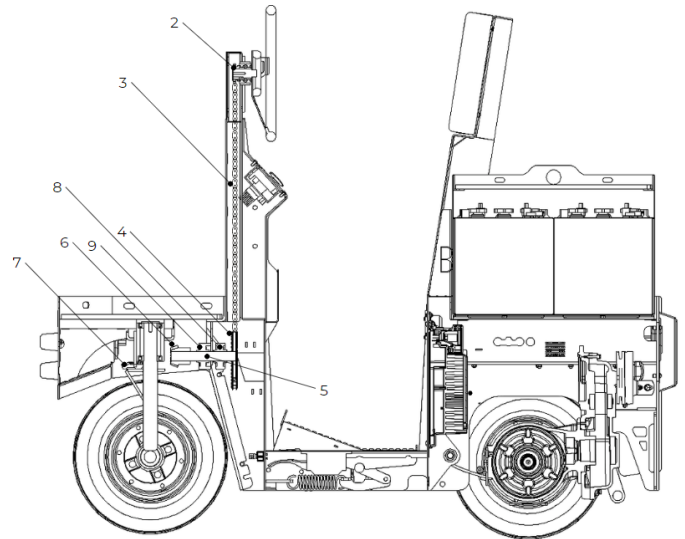

Figure 26. General Steering Inspection.
Lubricate the grease fittings of the following components (see Figure 26):
- Chain (see Figure 26 page 33 - part no. 3).
- Steering shaft (see Figure 26 page 33 - part no. 5).